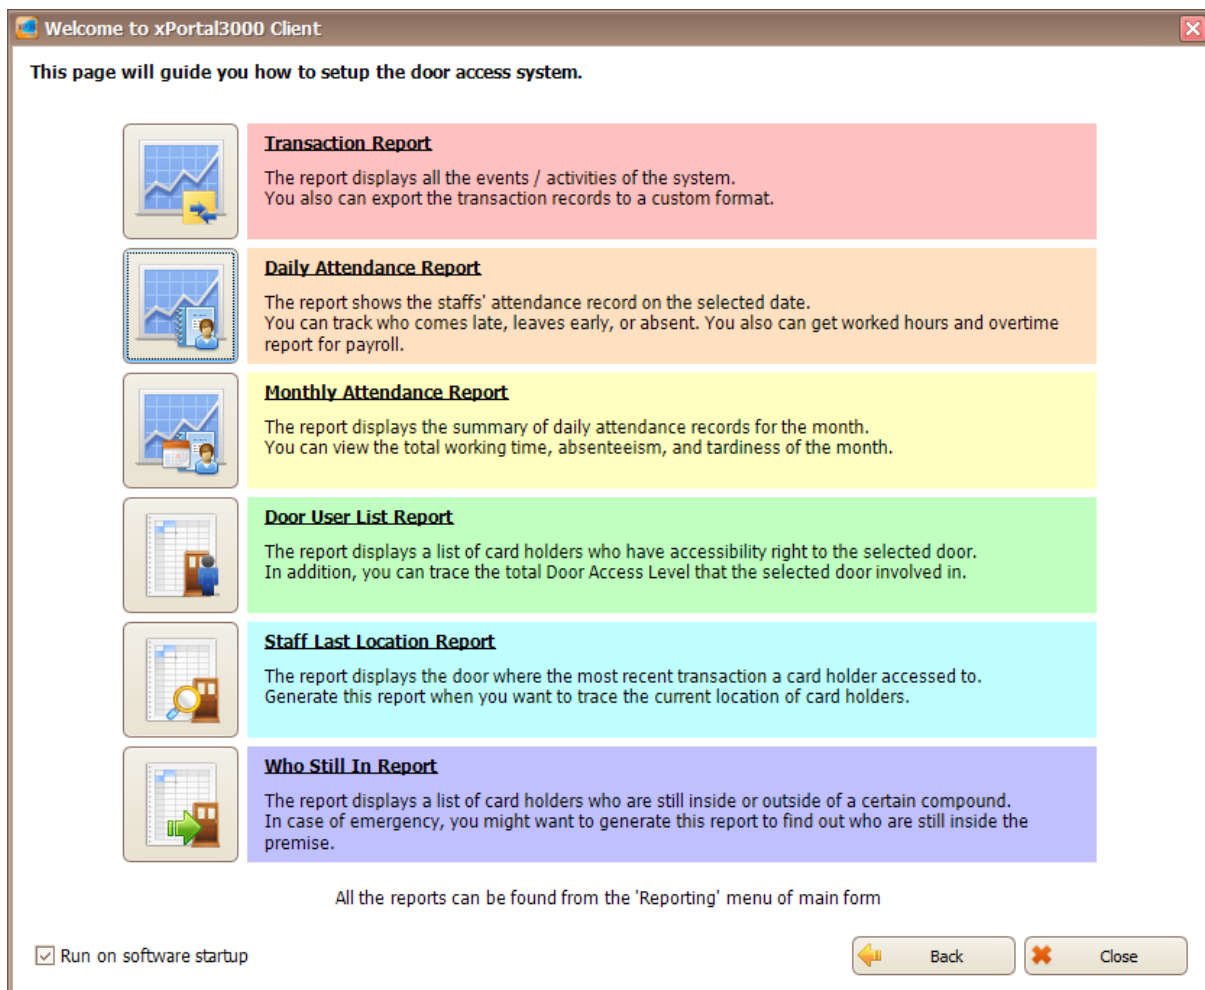

Figure 88 - List of Reports
2. The following screen will be shown (Refer **Figure 88**).